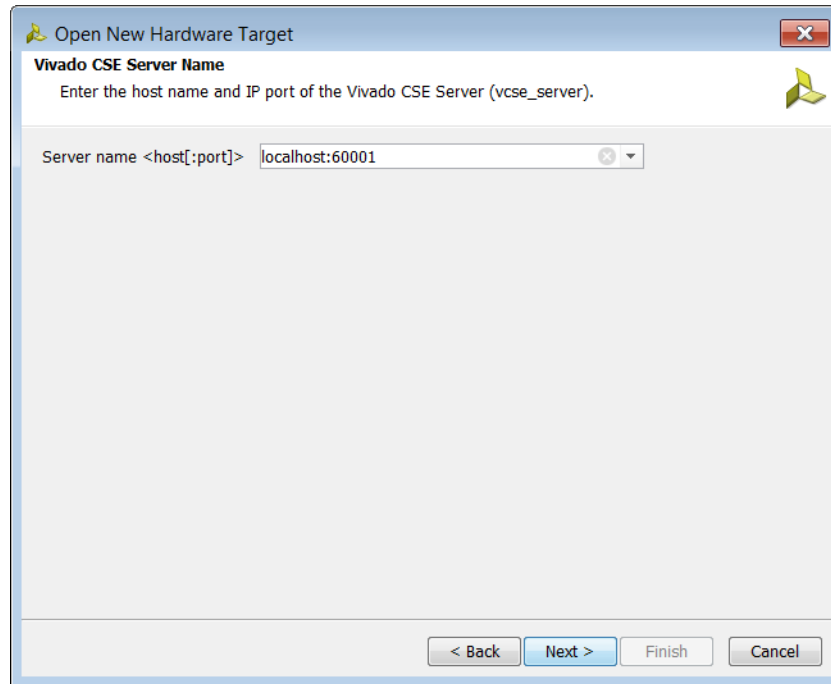

Figure 2-6: Specifying the Vivado CSE Server Name
1. Specify or select the host name and port of the Vivado CSE server (also called `vcse_server`) that is managing the hardware targets on the machine to which the target board is connected (see Figure 2-6).